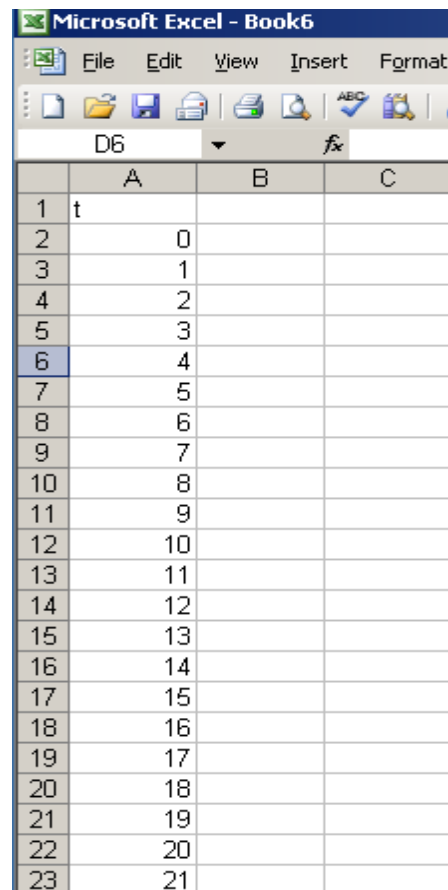

Figure 31: Time series in seconds since simulation start
2. Fill in column A in one workbook with a whole-number series starting at zero and incrementing by one (see Figure 31)
- Figure 31 is in seconds since simulation start, which means that for each second of “simulation time” (which is one iteration) a value is read from the input file.